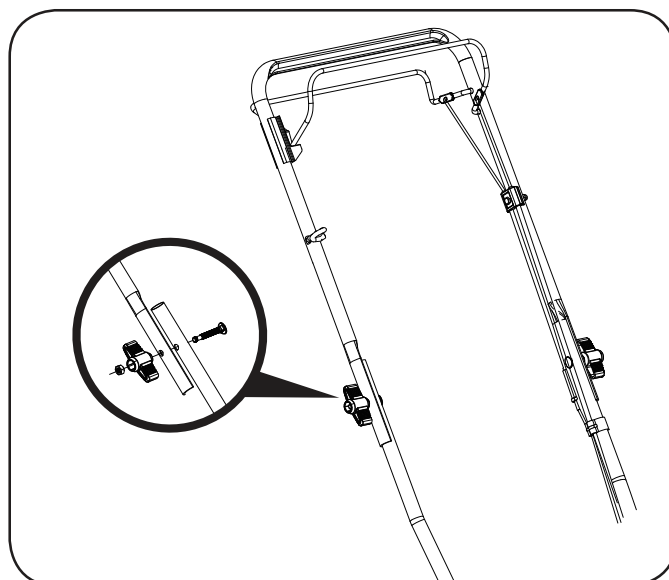

Figure 4
3. Reinforce the connection between upper handle with lower handle by tightening two handle connecting knobs (Figure 4).